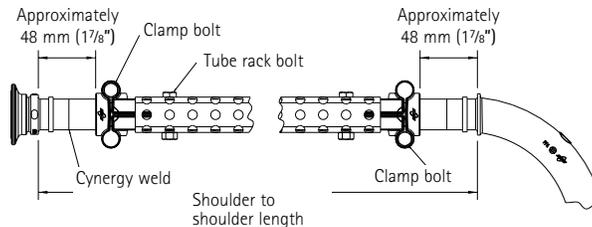

Figure 19
3. Calculate the tube rack length required for each tubing section by subtracting 6.25 inches from the tube length as measured from fitting shoulder to fitting shoulder (see Figure 19).
10. Close the clamp halves together and secure the halves using the remaining 1/4-20 bolts. Refer to Table 23 for correct clamp size. The clamp halves should be approximately 1 7/8" from the fitting collar (see Figure 19). Do not clamp over the Cynergy weld. Tighten the bolts with a 7/16" hex wrench to eliminate any gap between the two halves.